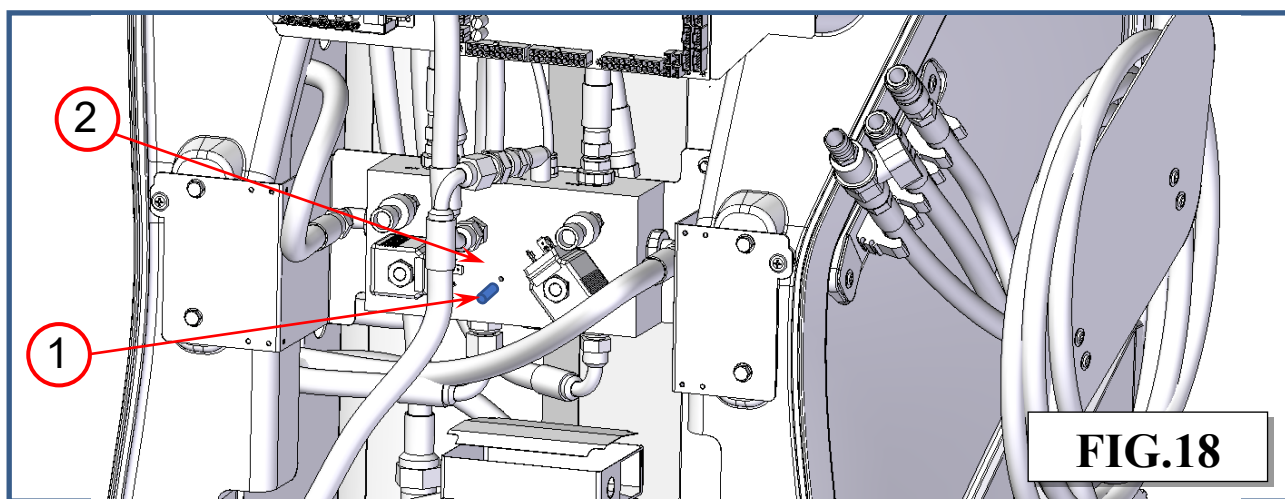

FIG.18
Disconnect the oil temperature probe (ref 1, Fig.18) from the manifold (ref 2, Fig.18) and so capable of reading the ambient temperature.
8. Reconnect new oil fixing tank bayonet (ref 1, Fig.18)